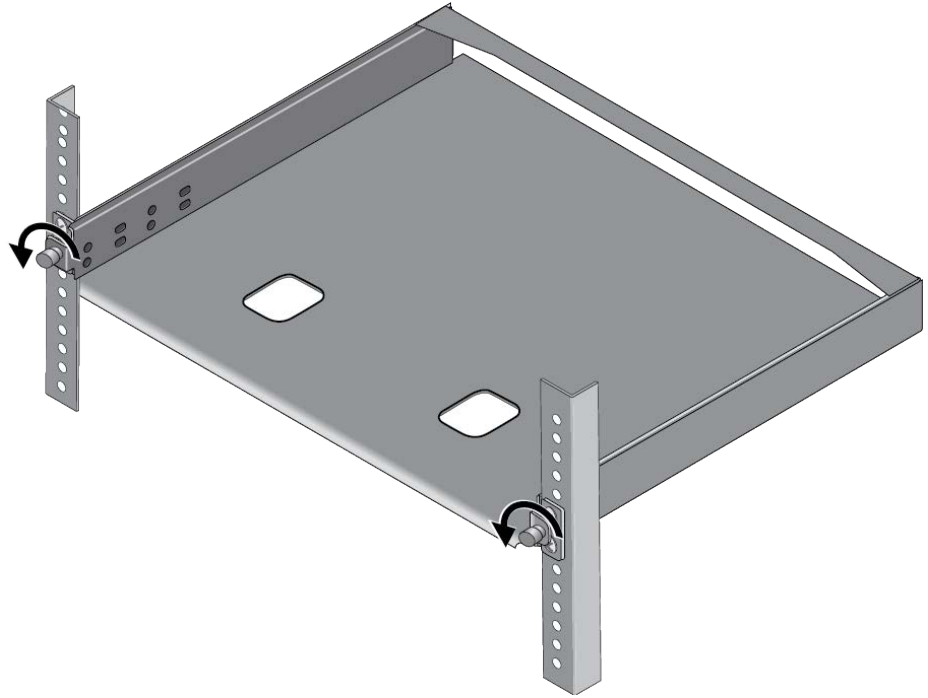

Figure 44. Loosening the Two Thumbscrews on the Front of the AT-RKMT-J15 Bracket
2. Loosen the two thumbscrews on the front of the bracket. Refer to Figure 44.